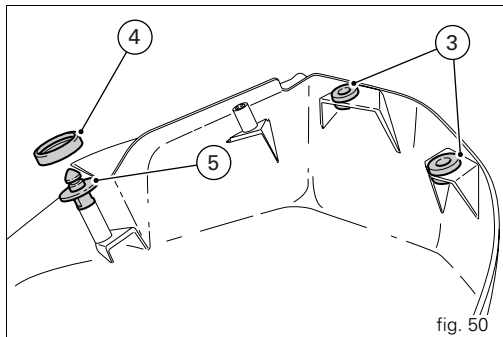

fig. 50
Before refitting the half fairing, make sure that the grommets (3) and seal (4) are correctly fitted over the pin (5) on the inside of the half fairing (fig. 50).